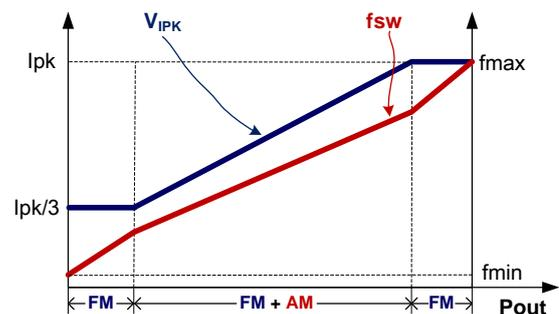

Fig.2
To meet the tight requirement of averaged system efficiency and no load power consumption, a hybrid of frequency modulation (FM) and amplitude modulation (AM) is adopted in KP32622 which is shown in the Fig 2.